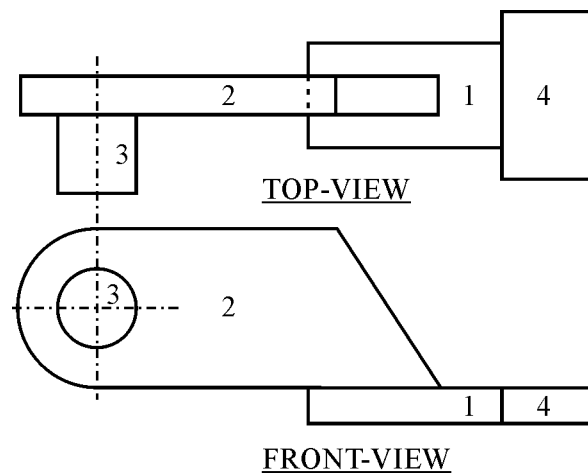

Fig. 2
- Redraw the given views (by neat proportionate free hand) given in fig. 2. Marked as 1, 2, 3 & 4 are to be welded as mentioned below. Use proper welding symbols.